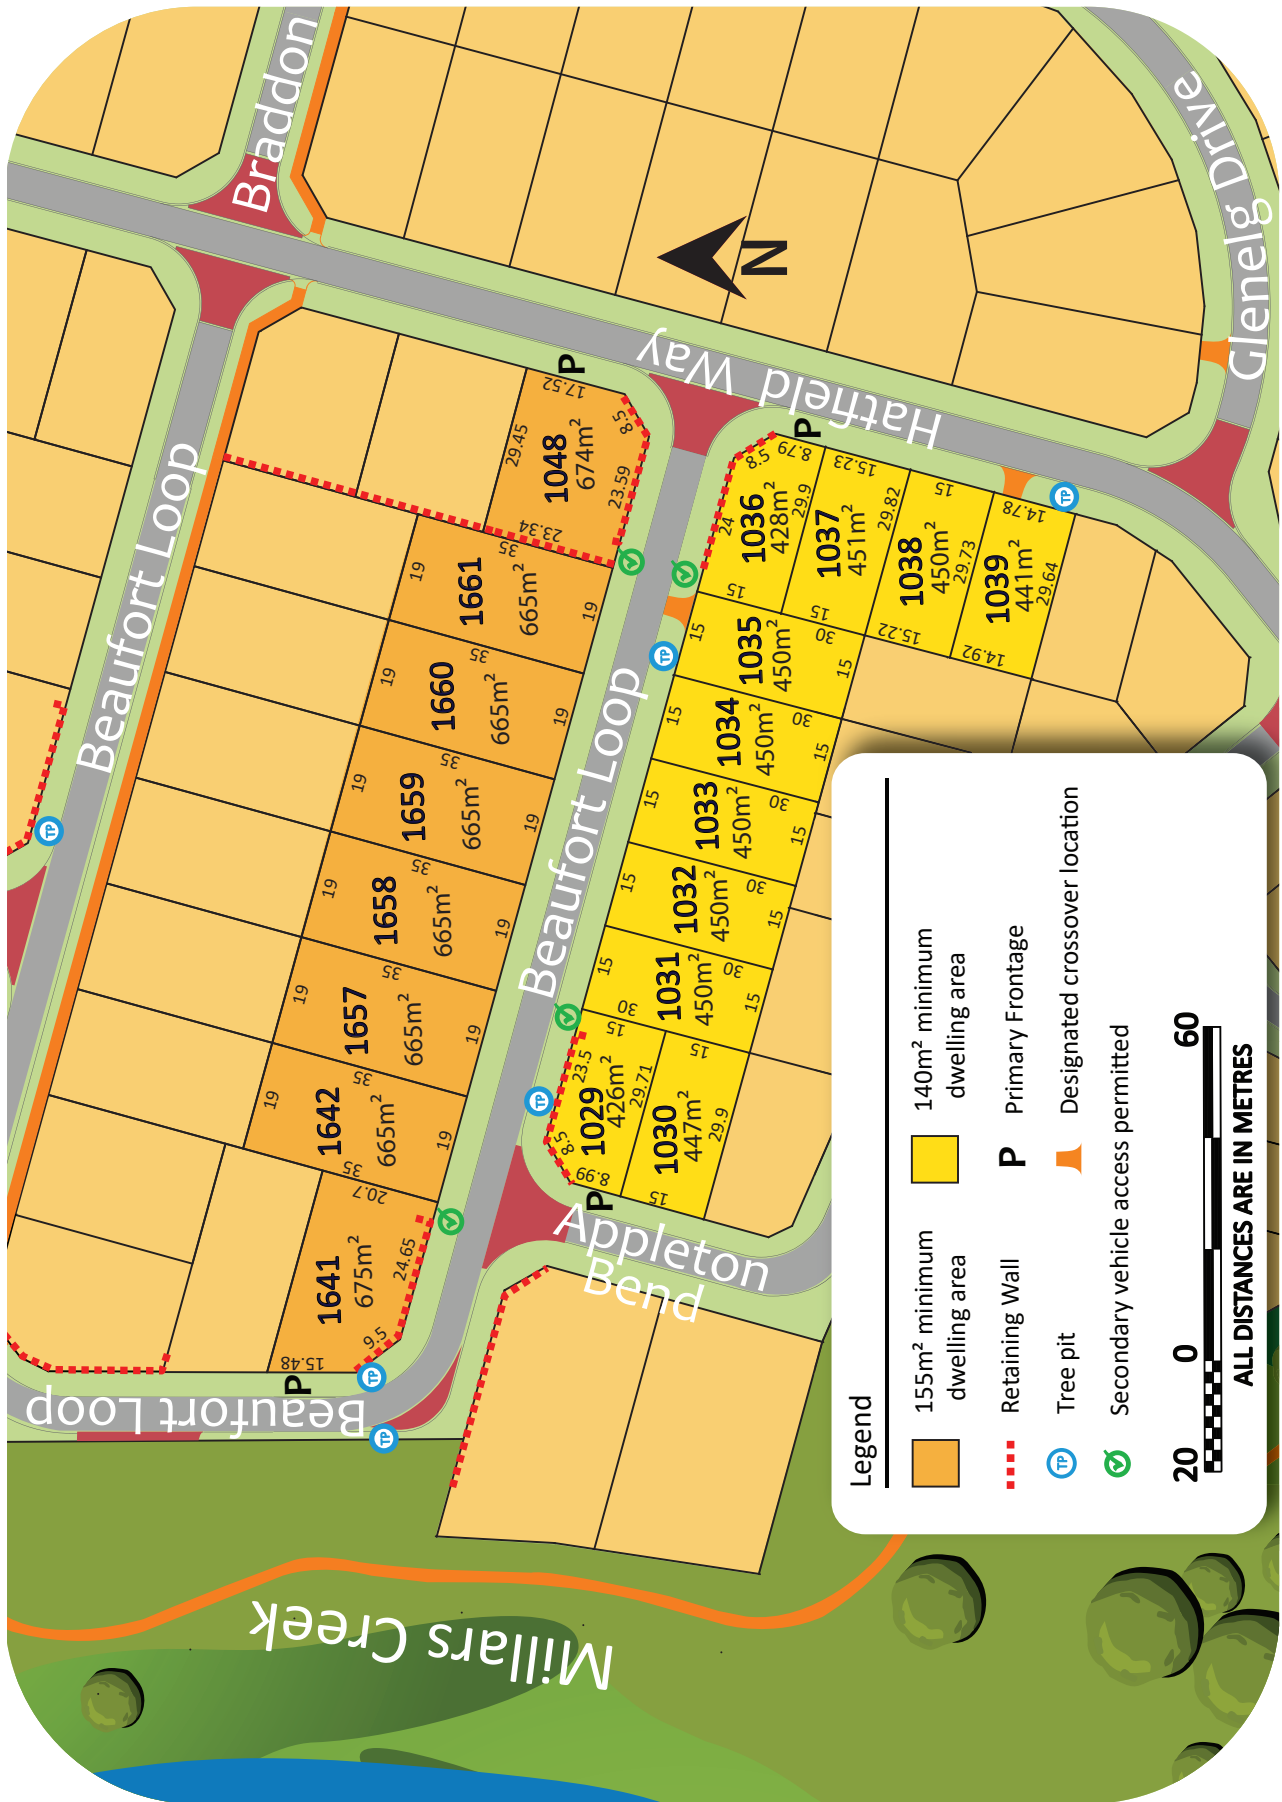

Figure 2
All corner lots with specific primary frontage are noted on Figure 2 with a "P". This is the primary frontage for R-Code setbacks on that property.
- Secondary street vehicle access is only permitted on certain corner lots, once approved by the Local Authority. Refer to Figure 2.